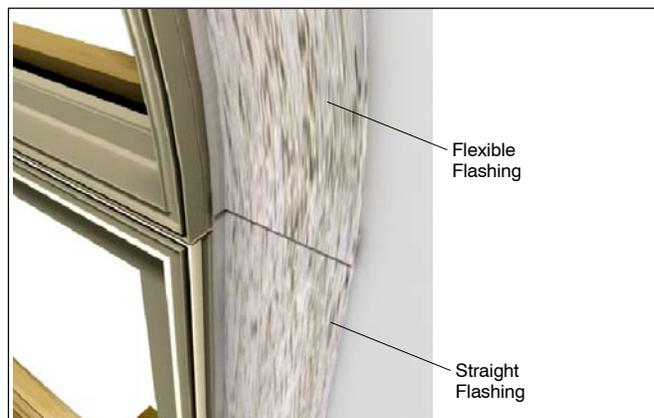

Figure 11: Use flexible flashing for radius head jambs
6. **Round Top Applications:** Flexible adhesive flashing is one way of flashing units with radius head jambs. Flash the vertical legs of the window first and then then over lap the flexible flashing onto the vertical flashing See figure 11.